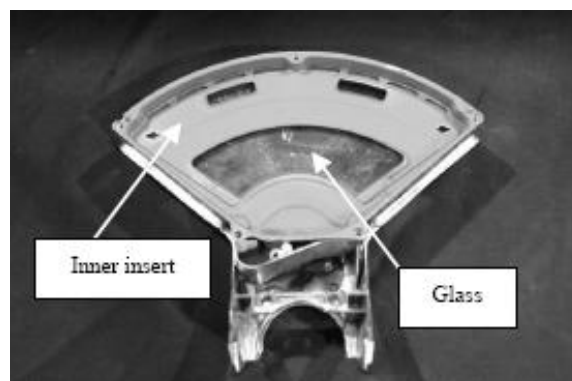

Figure 4
- 5) Remove the inner insert and glass. (figure 4)